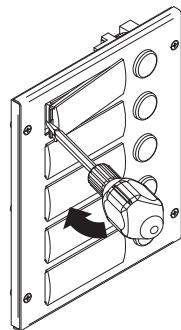

Fig. 14
- Move the screwdriver to the left as shown in Fig. 14 to extract the card name holder;